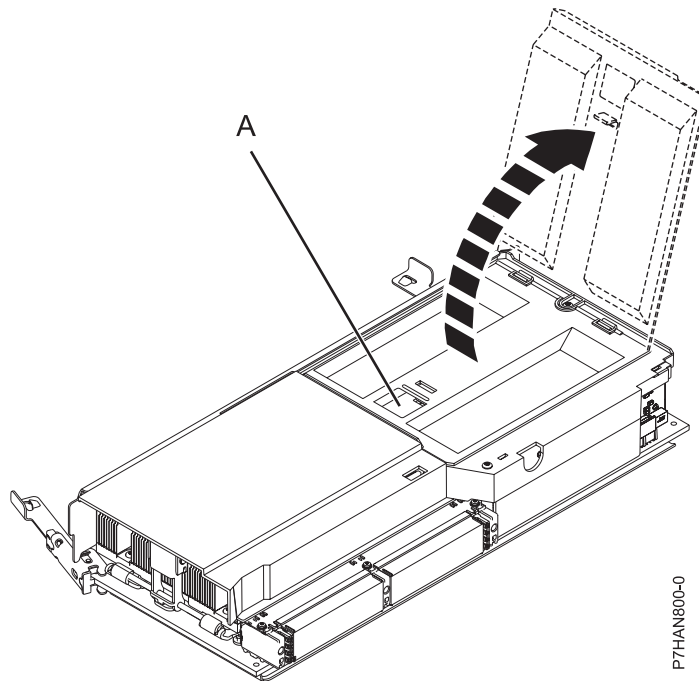

Figure 4. Removing a memory module
10. Unlock the memory module cover by pushing the locking tab **(A)** down, as shown in Figure 4 on page 7. Lift the cover up to access the memory modules.